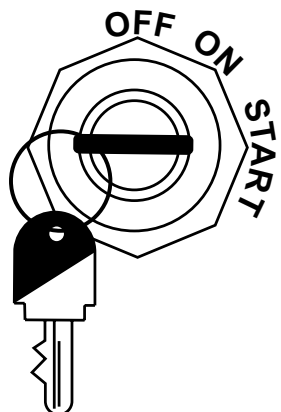
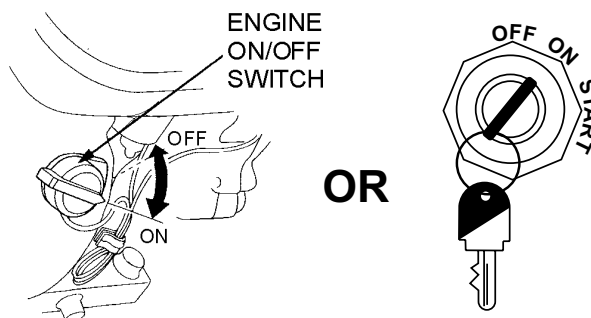

Figure 14. Engine ON/OFF Switch (Electric Start)
Figure 15. Engine ON/OFF Switch (Recoil Start)
7. Turn the engine ON/OFF switch (Figure 14)to the **START** position and hold it until the engine starts. When engine starts, release the key, allowing it to return to the **ON** position.
2. Place the Engine ON/OFF switch (Figure 15) in the **ON** position.
4. Turn the engine on/off switch (Figure 14 or Figure 15) to the OFF position to shut down the engine.